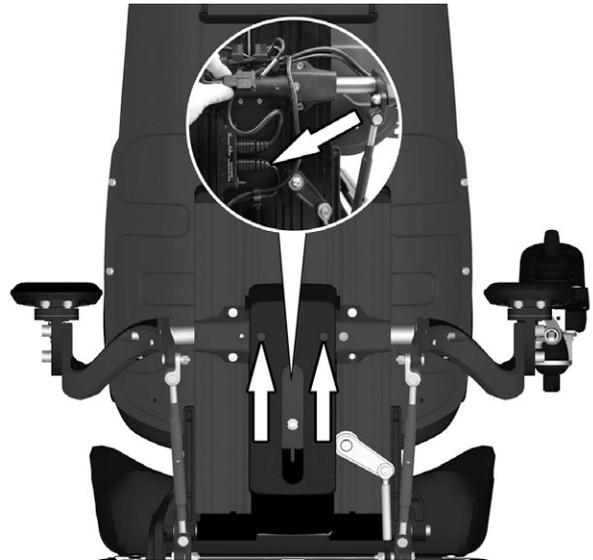

Figure 101. The contact block is located under the cover wiper is attached with two screws.
9. Connect the Rnet cable to the contact block at the back of the back rest. See fig. 101. Assemble the cable to its cable brackets. See *Rnet and ICS bus cable mounting*, Page 83 .